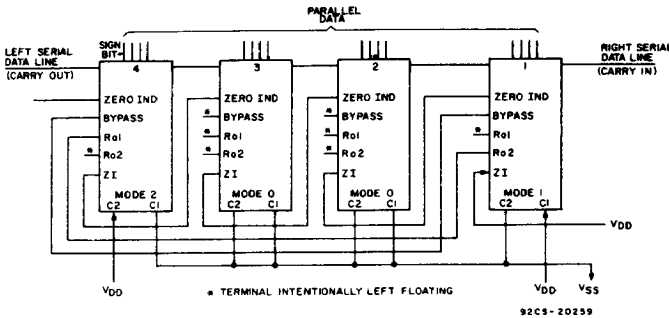

Fig. 11 — Connection for 16-bit arithmetic logic unit.
Data-flow interruptions are shown by shaded areas. With these three ALU's and the four available modes, 61 more system combinations can be formed. If 4 ALU's are used, 44 combinations (256) are possible. Fig. 11 shows a diagram of 4 CD4057A's interconnected to form a 16-bit parallel processor.
The condition of "all zeros" is indicated by a "1" on the Zero Indicator terminal of the "Most Significant" CD4057A. As shown in Fig. 11, terminal ZI of the CD4057A containing the least significant set of bits is connected to V_{DD} . Zero indication is independent of modes.